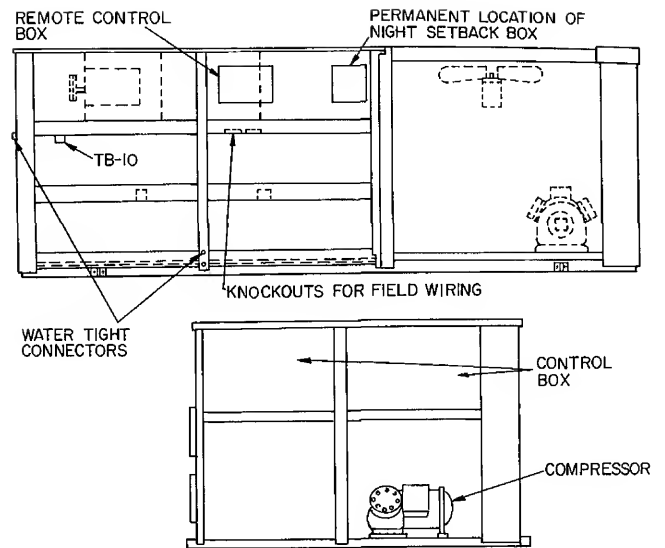

Fig. 12 — Shipping Locations — Remote Box
UNITS WITH ENERGY MANAGEMENT ACCESSORY — In addition to the standard control box, units with energy management accessory are also equipped with a remote box and a night setback box. The remote box contains a 7-day time clock, a bypass switch that can manually bypass the time clock for up to 5 hours, 6 indicator lights and 2 terminal blocks for field wiring connections. Mount this box remote from the unit in an indoor or weathertight space. The night setback box contains a terminal block for field wiring connections, a morning warm-up thermostat and the setback/setup module. The night setback box remains in the unit. Shipping locations of remote box and permanent location of night setback box are shown in Fig. 12.
4. Run 24-volt wires between the remote box and night setback box per Fig. 11. Use no. 18 AWG wire for lengths up to 1000 feet. Local codes may dictate use of conduit for low voltage. Knockouts are provided in the night setback box and in the fan deck separating heating section from section containing the night setback box (Fig. 12). A watertight connector is installed in side of unit. Two rubber grommets are taped inside the night setback box. Use grommets in knockouts in fan deck and night setback box.